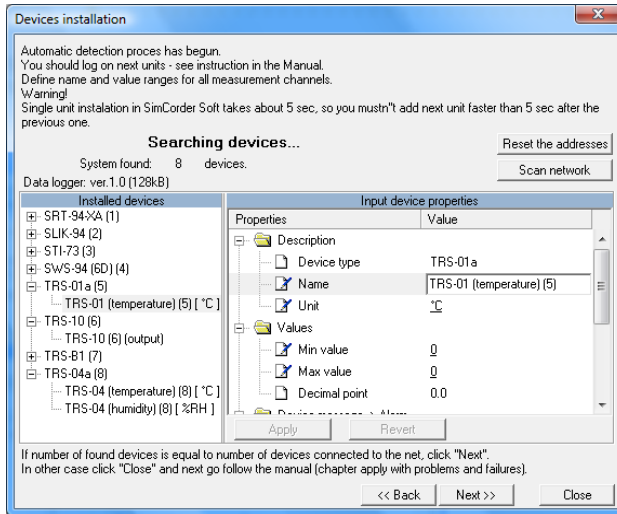

Figure 2.5. Assigning names, units and min/max values
5. Device detection screen allows the assigning of names to detected devices (Figure 2.5). Order of devices on the list corresponds to the order of it's detection by software.